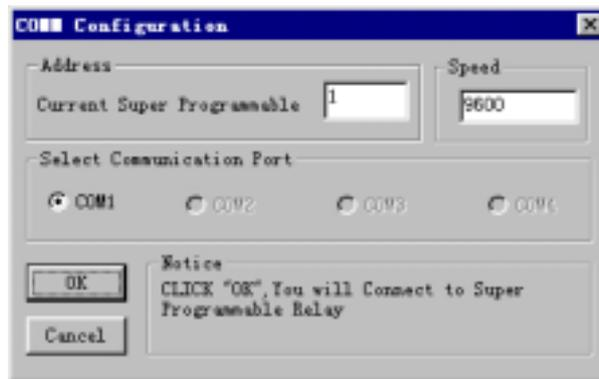

Fig 4.17 Set Up Port and Baud Rate
b. Open application software Super CAD, set up a new document, then open computer com, click option “Configuration” under menu “Com” with left button of the mouse, or click “” in toolbar, dialog box shown as fig 4.17 appears, then select your communication port and speed.
- b. Open the port of computer,click option “Configuration” under menu “Com”, or click  in toolbar, dialog box shown as fig4.17 appears, select your communication port and speed.